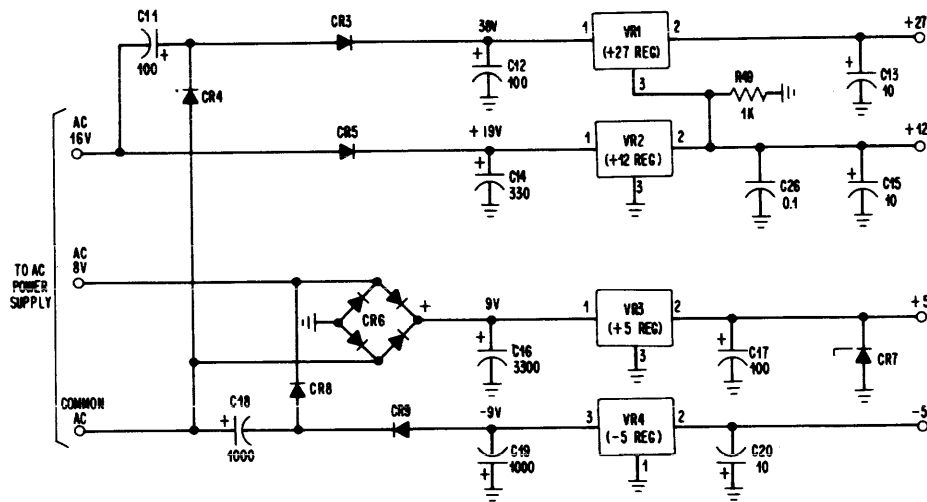

Figure 2-9. Power Supply Schematic Diagram
2.2.8 Power Supply Circuitry (See Figure 2-9.)